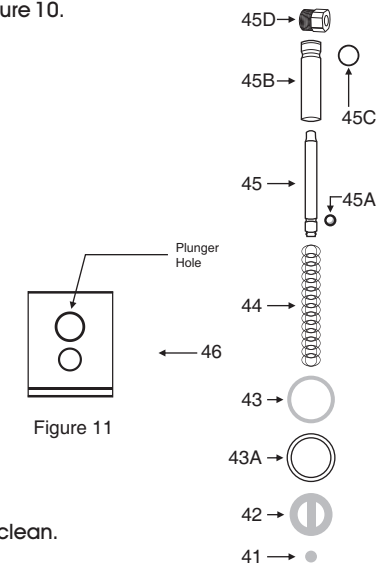

Figure 11
- Ball (#41) - Surfacer (#42) - Nylon washer (#43) - Steel washer (#43A) - Double spring (#44) - Fit bucket (#45A) on plunger shaft (#45)- Fit plunger holder seal (#45C) in to pump plunger (#45B) - Insert plunger shaft (#45) into plunger (#45B) from the bottom side as shown in figure 12. Otherwise bucket will damage & as shown in figure 11. tight the nut (#45D).